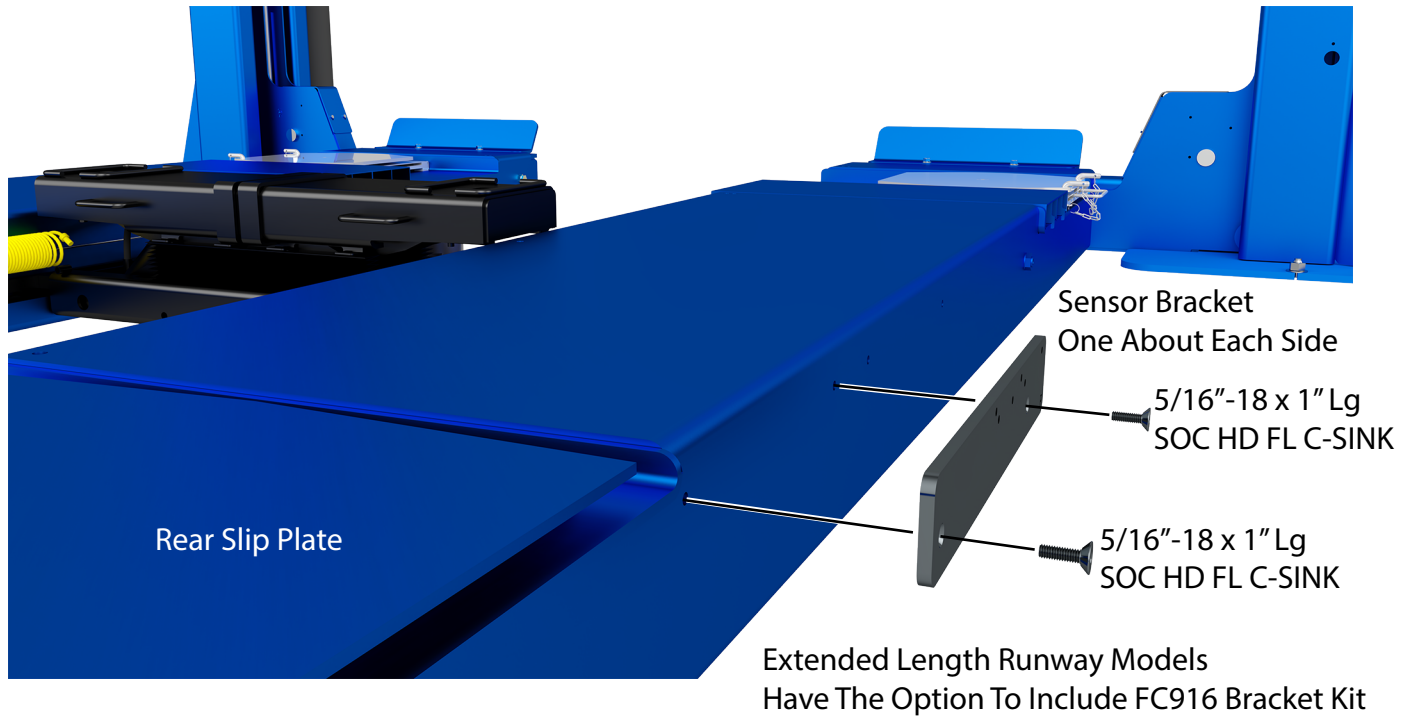

Fig. 47
- A. Standard length runway models come with (1) Z100039 bracket kit, which can be attached, at one of the locations in Fig. 47. Extended length runway models have the option to include FC916 with additional kits.